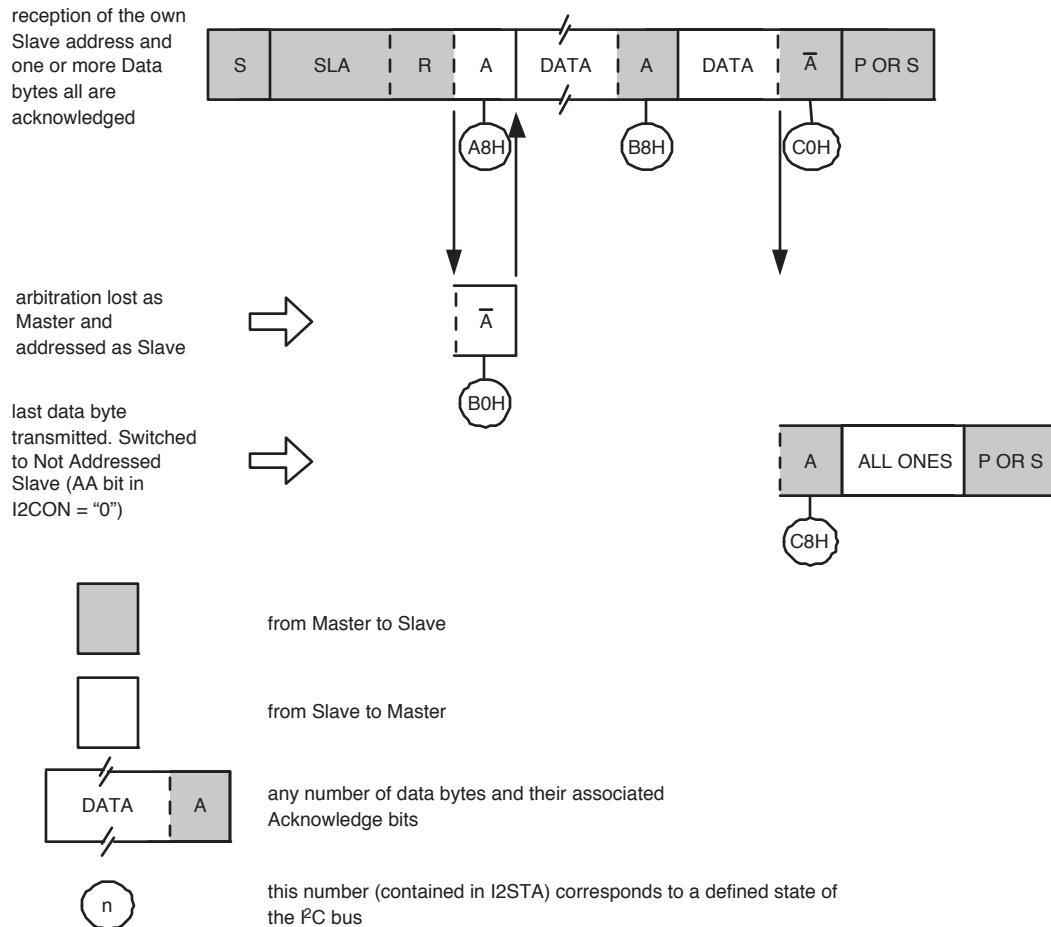

Fig 57. Format and states in the Slave Transmitter mode
In the slave transmitter mode, a number of data bytes are transmitted to a master receiver (see Figure 57). Data transfer is initialized as in the slave receiver mode. When ADR and CON have been initialized, the I2C block waits until it is addressed by its own slave address followed by the data direction bit which must be “1” (R) for the I2C block to operate in the slave transmitter mode. After its own slave address and the R bit have been received, the serial interrupt flag (SI) is set and a valid status code can be read from STAT. This status code is used to vector to a state service routine, and the appropriate action to be taken for each of these status codes is detailed in Table 241. The slave transmitter mode may also be entered if arbitration is lost while the I2C block is in the master mode (see state 0xB0).